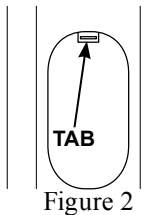

Figure 2
1. Press the tab towards the bottom edge of the Remote Control and lift up on the Battery Cover and temporarily place it aside. Refer to figures 2 and 3.
1. Press the tab and lift up on the Battery Cover and temporarily place it aside. Refer to figures 2 and 3.